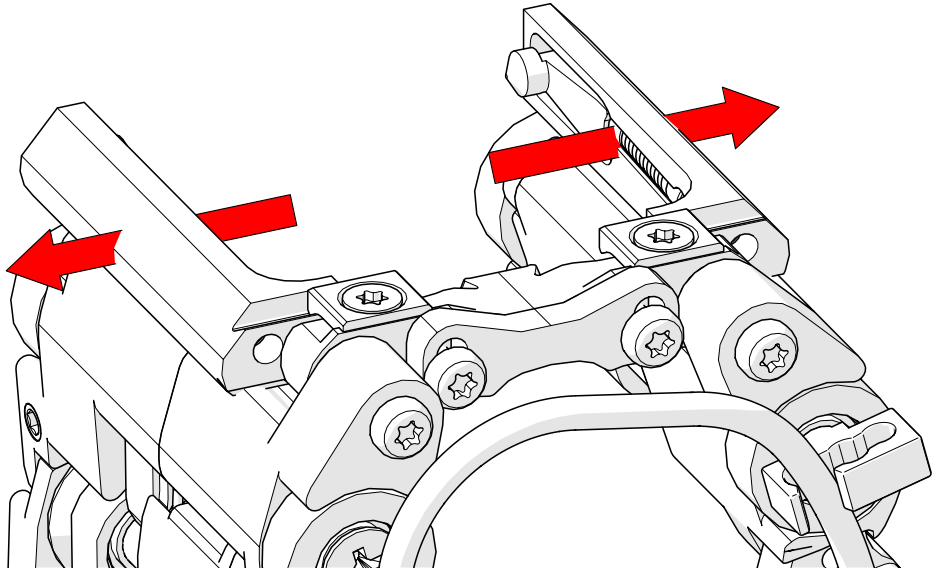

Fig. 54 - Loosen probe holder adjustment screws
5. Slide the probe holder arms out, without removing them (Fig. 54).